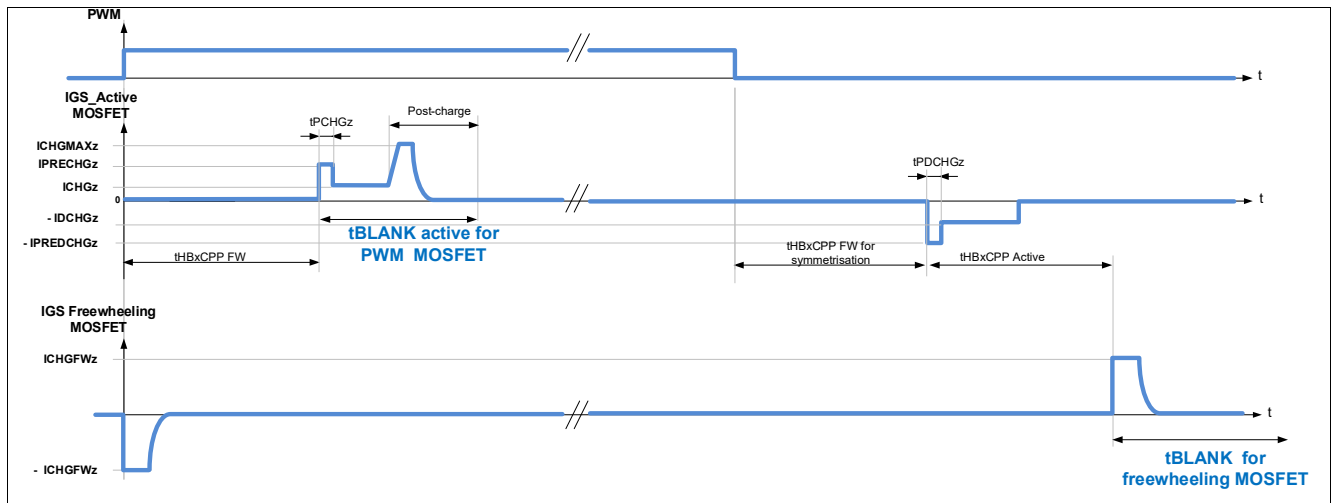
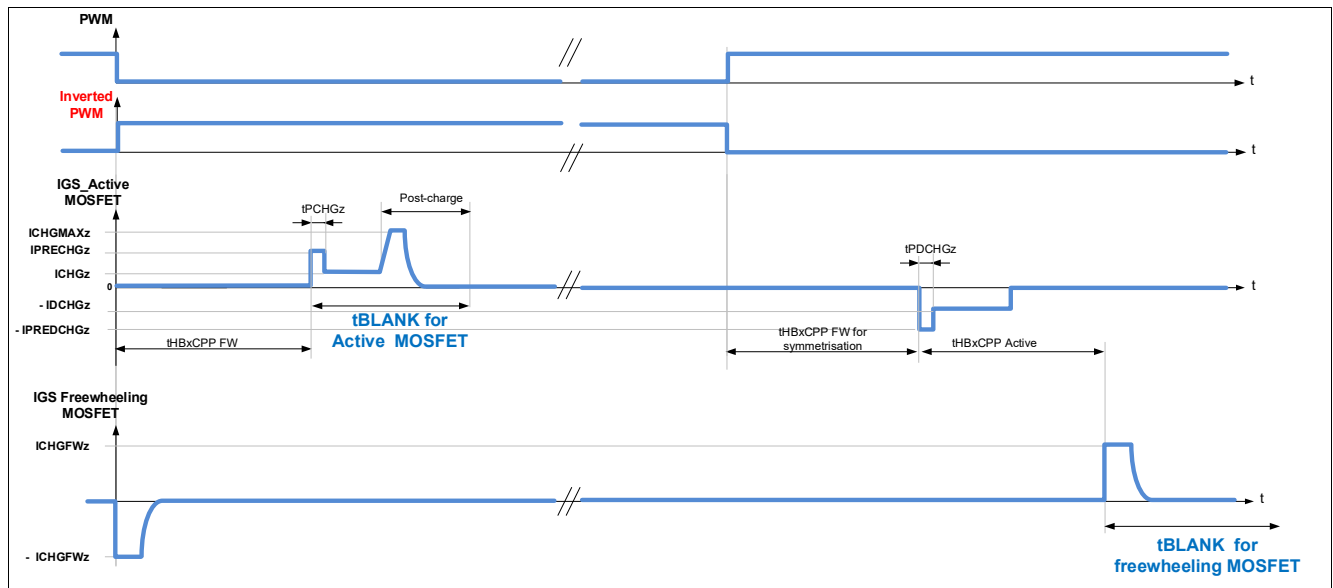

Figure 34 Blank time for half-bridges in PWM operation, detection of generator mode enabled (EN_GEN_CHECK = 1), motor operating as load
Figure 35 Blank time for half-bridges in PWM operation, detection of generator mode enabled (EN_GEN_CHECK = 1), motor operating as generator
- The blank time of the Active MOSFET starts at the expiration of the cross-current protection time of the FW MOSFET (tHBxCCP FW). Refer to **Figure 34** and **Figure 35**.
- The blank time of the FW MOSFET starts after expiration of the cross-current protection time at turn-off of the Active MOSFET (tHBxCCP Active). Refer to **Figure 34** and **Figure 35**.